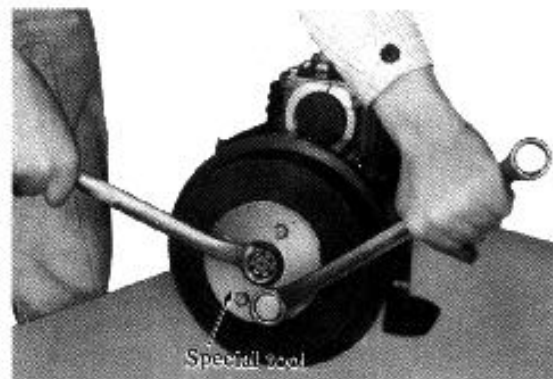

Fig. 9-3
3. Hold the parking brake drum from turning with the aid of the special tool preload adjuster (09922-75220) and take out the parking brake setting nut as shown in the Fig. 9-3.